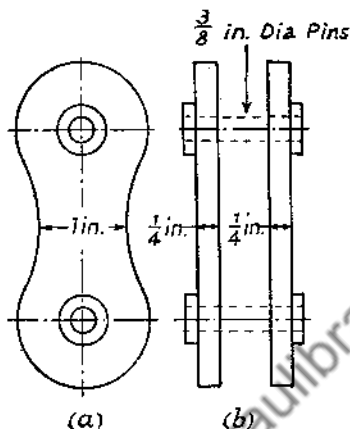

Fig. 78
(9) If the chain shown in fig. 78 is used to lift a load of  $1\frac{1}{2}$  tons, determine: (a) the maximum tensile stress in the side plates; (b) the shearing stress in the pin.